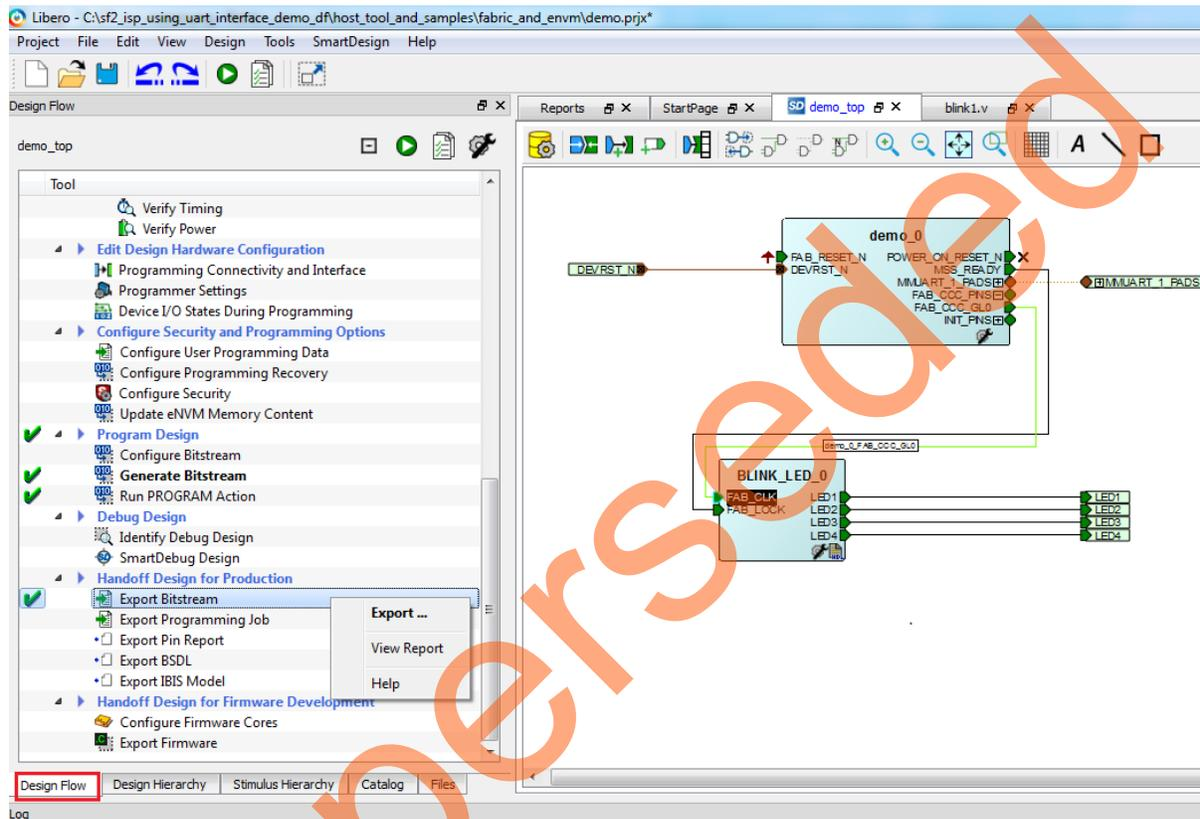
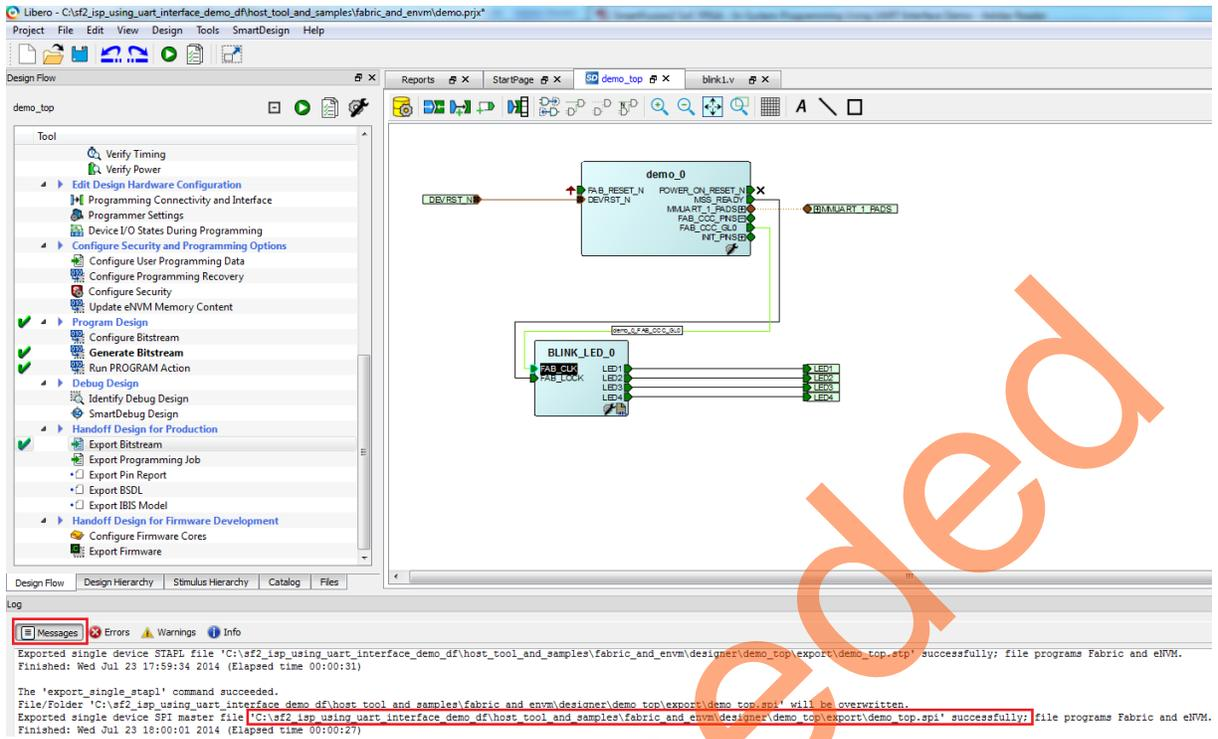

Figure 17 • Configuring Export Bitstream
Figure 19 • .SPI File Location
5. Double-click **Export Bitstream** under **Handoff Design for Production** in the **Design Flow** tab to generate the `.spi` file (Figure 17 on page 23). Figure 19 on page 25 shows the `.spi` file location in **Messages** tab.